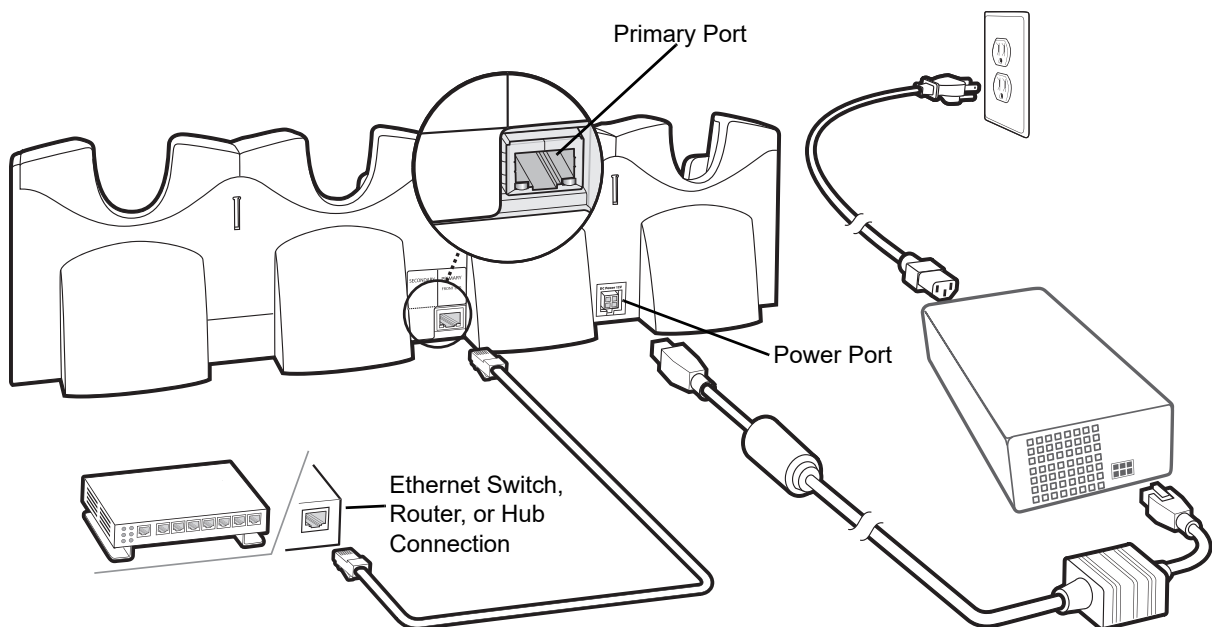

Figure 2-10 CRD5501-4001ER Four Slot Ethernet Cradle Connection
2. Connect an Ethernet cable to the Primary Port of the first cradle and to the Ethernet switch. See Figure 2-10.